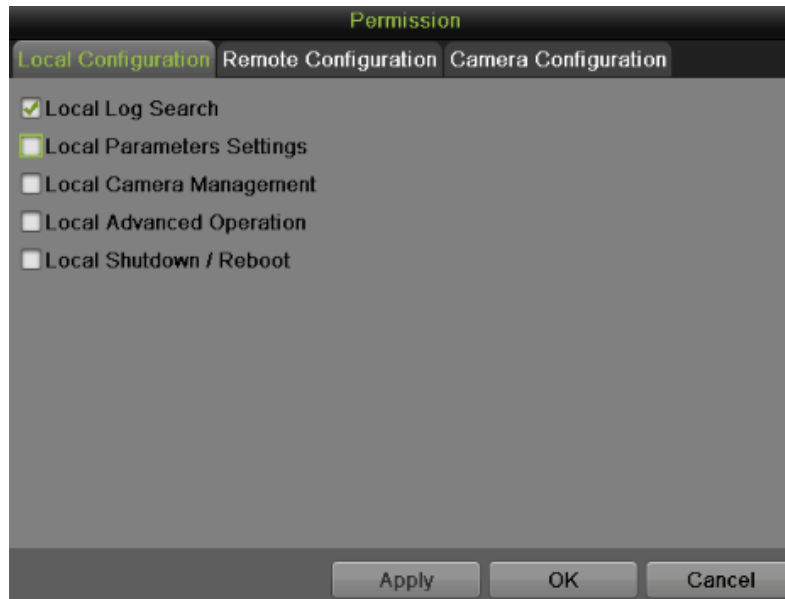

Figure 110 Permission Settings Menu
2. Click  to enter the Permission interface, as shown in **Figure 110**.
1. Enter the User menu, shown in **Figure 110** by going to Menu > System Configuration > User.